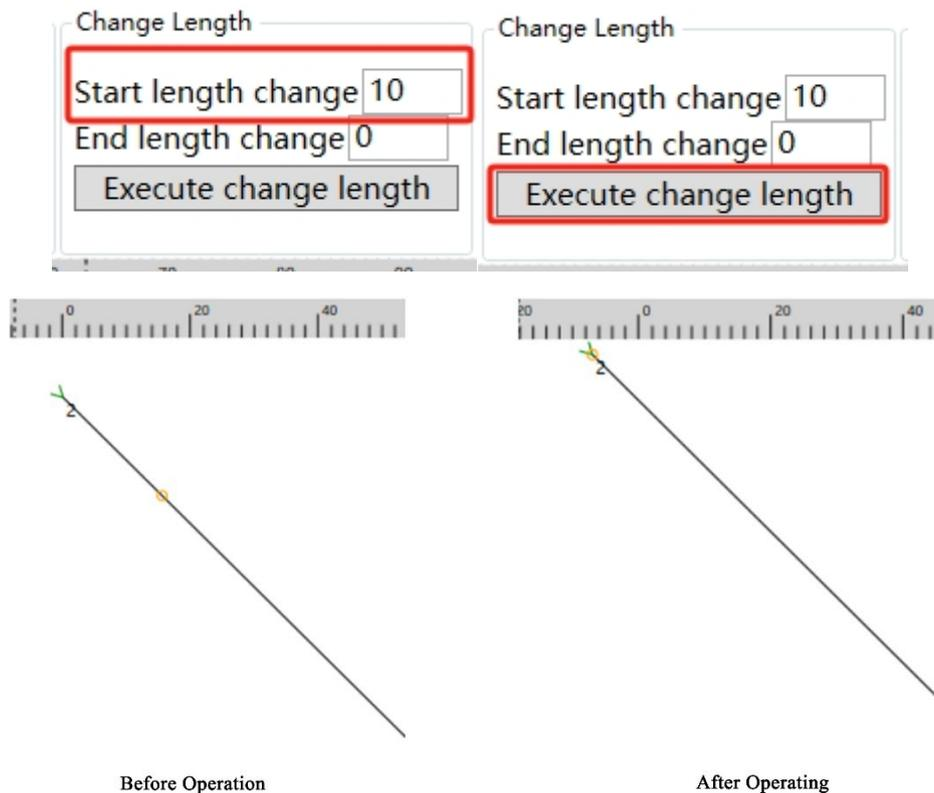

Fig. 5.6.6b Schematic Diagram of Change Length Operation
② Click "Execute Lengthening", and the graphic will be lengthened accordingly, as shown in Fig. 5.6.6b below.